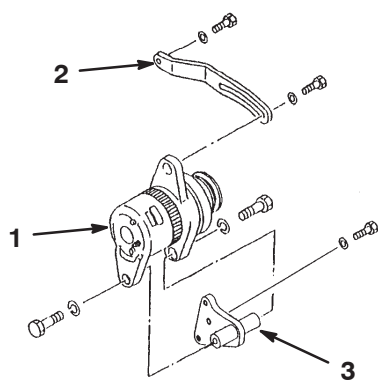

Figure 1
4. Disconnect the wires from the back of the alternator (Fig. 1).
5. Remove the bolts and washers securing the alternator to the adjusting arm and to the mounting bracket (Fig. 1). Retain the fasteners for installation of the new components.
8. Remove the bolts and washers securing the alternator adjusting arm and the mounting bracket to the engine (Fig. 1).